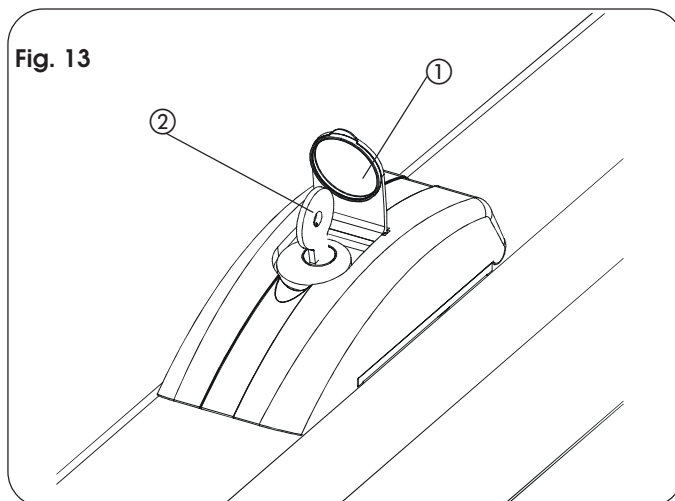

Fig. 13
- Lift the protective plug (Fig. 13, ref. ①) and fit the supplied key (Fig. 13, ref. ②).
- Turn the key 90° clockwise to open the cover.